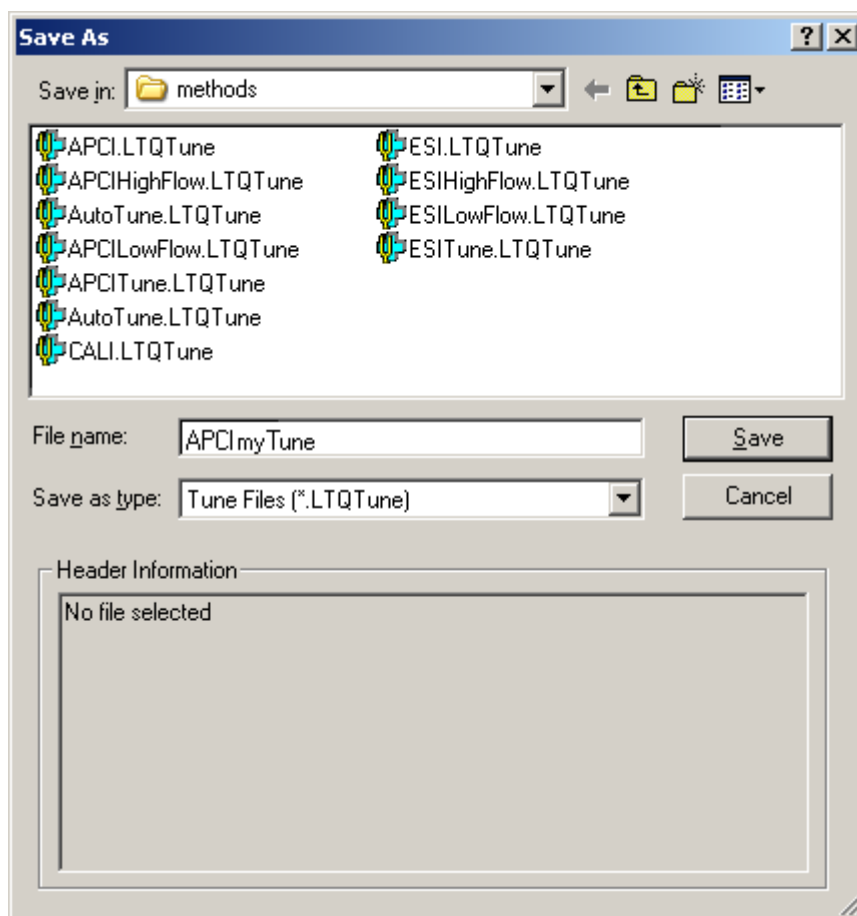

Figure 7-7. Save As dialog box, showing files in the folder *C:\Xcalibur\methods*
1. Choose **File > Save As** to display the Save As dialog box. See Figure 7-7.